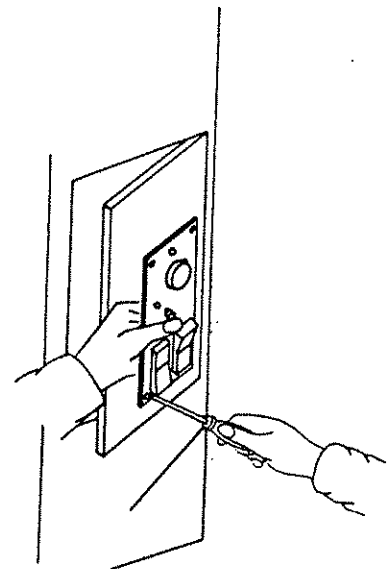

Fig. 50
4. Undo the controller from its housing by removing the four screws from each side of the unit (see fig. 50)